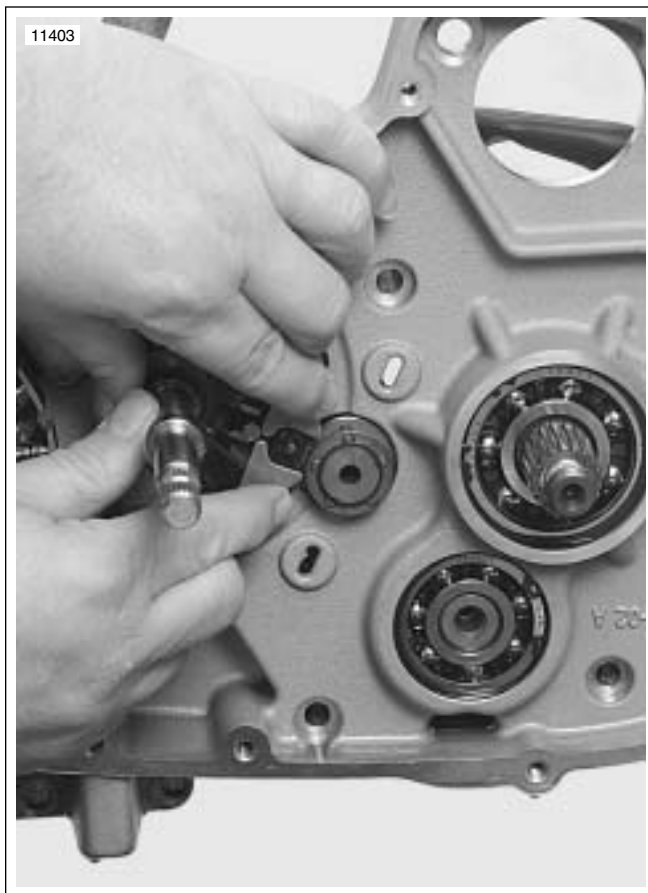

Figure 6-49. Removing Shifter Shaft Assembly
11. See Figure 6-49. Remove shifter shaft assembly.